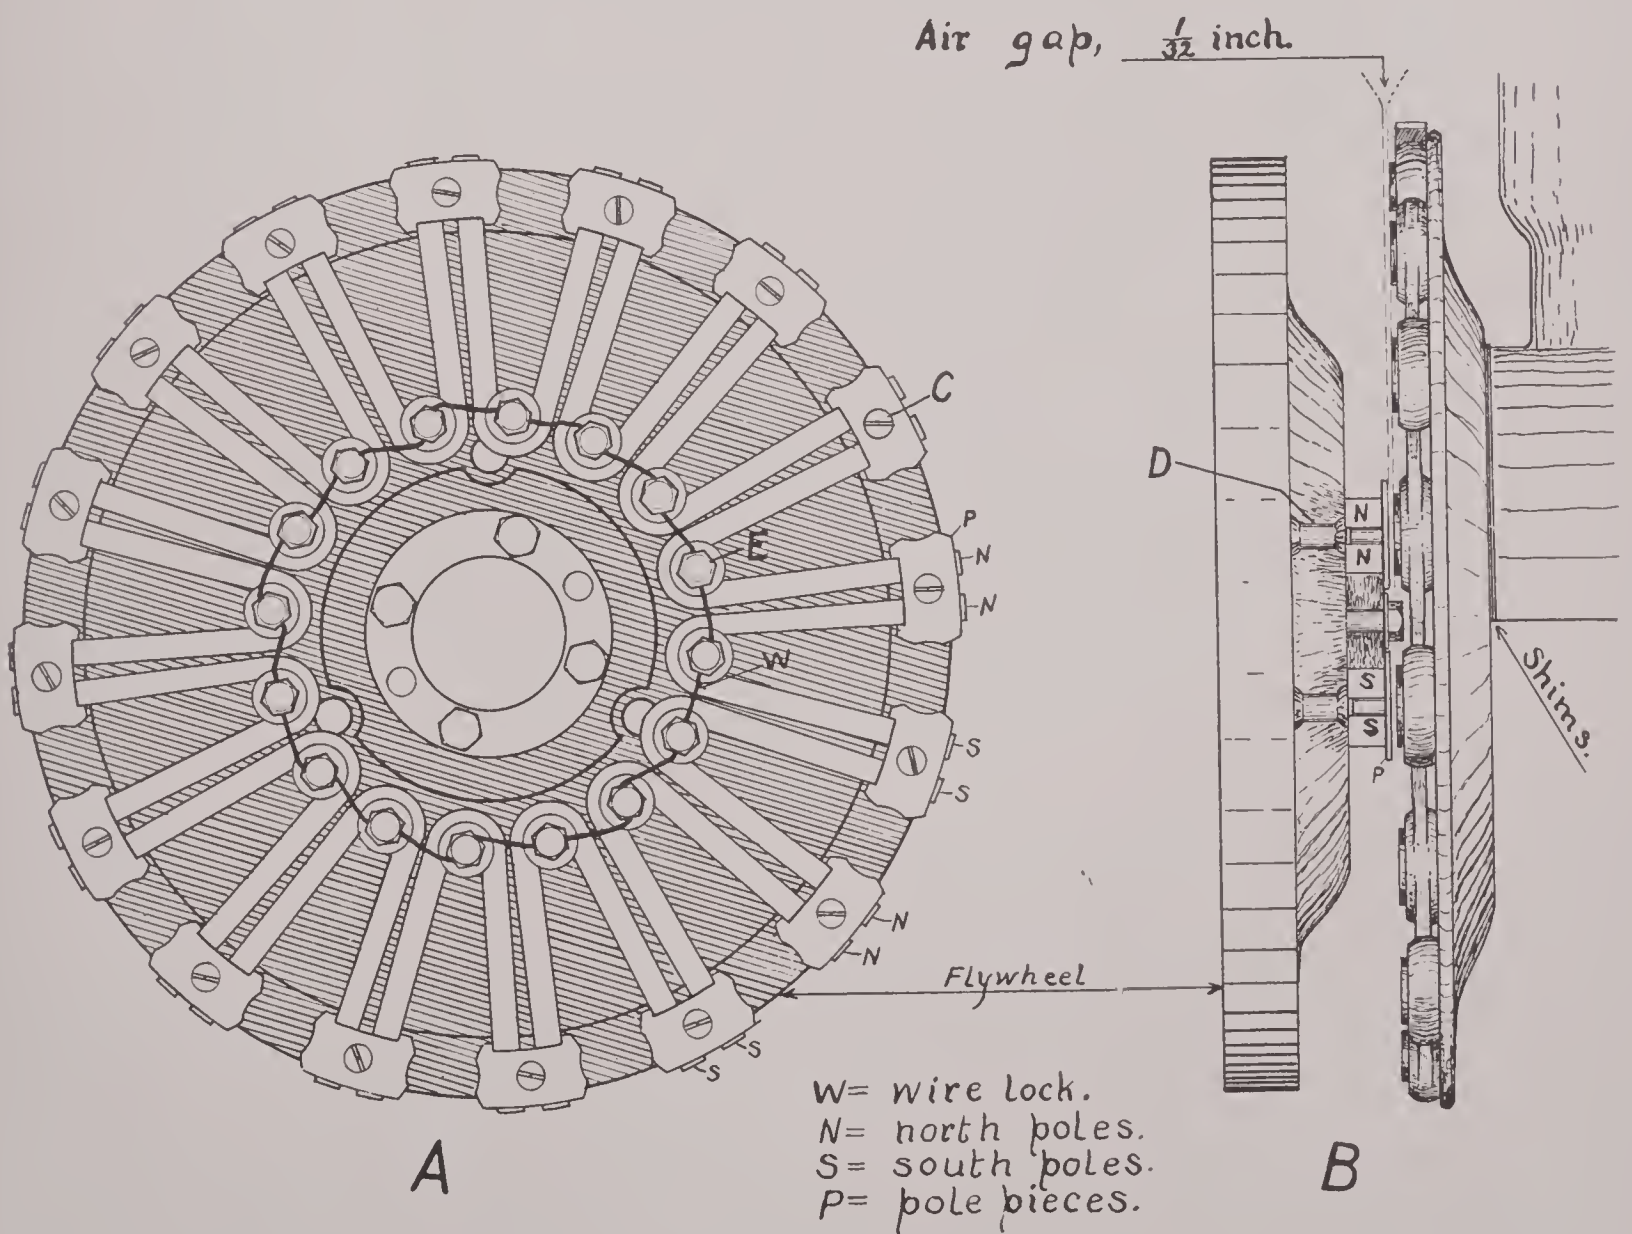

FIG. 267
of the magnets are placed together. Fig. 267, illustration (A) shows the arrangement of magnets on the flywheel.